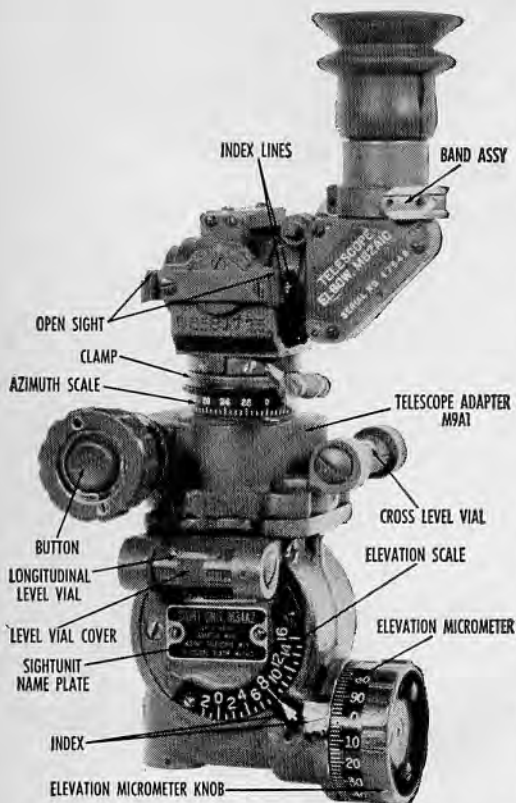

Fig. 30.8 Sight unit M34A2—left-side view.
The accuracy with which mortar shells are placed on the enemy depends a great deal upon the skill of the gunner in using the M34A2 Sight. This sight lays the mortar for deflection and elevation. The same sight should always be used with the same mortar. The sight unit consists of a telescope mount, elbow telescope and a telescope adapter. The M34A2 Sight is depicted in Figures 30.8 and 30.9(1) and (2).